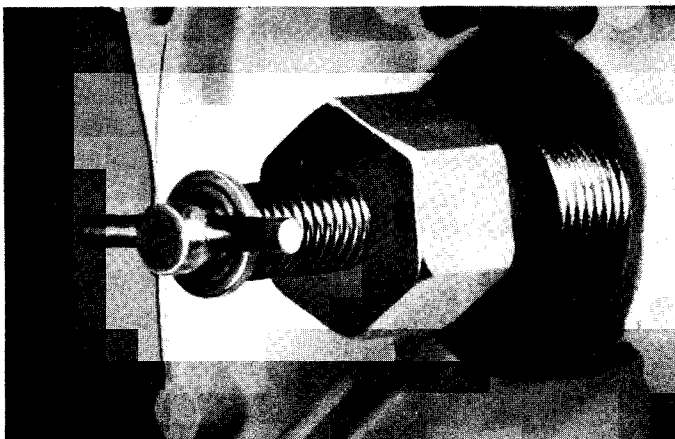

Figure 1. Timing Gauge in No. 1 Spark Plug Hole
- Thread Timing Gauge (91-30292A1) into No. 1 spark plug hole. (Figure 1)